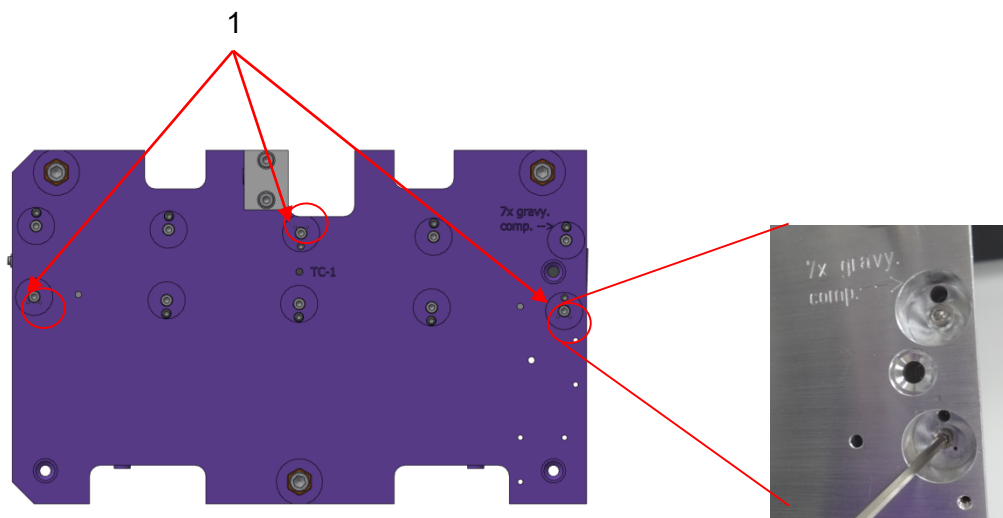

Figure 64: Fixing screws which have to be loosened
The mirror dummy can be removed by carefully sliding it through the fixing clamps after they have been loose (see Figure 64). The clamps can be loose from below the base plate, as shown in Figure 64. Do not remove the fixing clamps/screws!
- K. Carefully tighten the fixing screws at the fixing clamps (#1 in Figure 64) without twisting the clamp on the holder base plate.